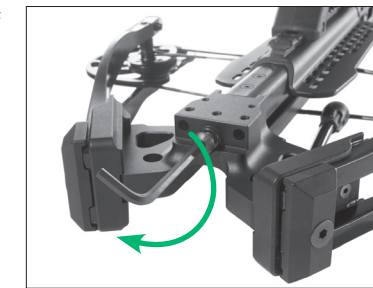

FIGURE 3
- 3** Install and tighten the riser bolt (Part D) using the large 3/16" hex wrench (Part F). As you tighten the bolt, the limbs and riser assembly should become flush with the rail. Tighten the riser bolt all the way down. See Figure 3.